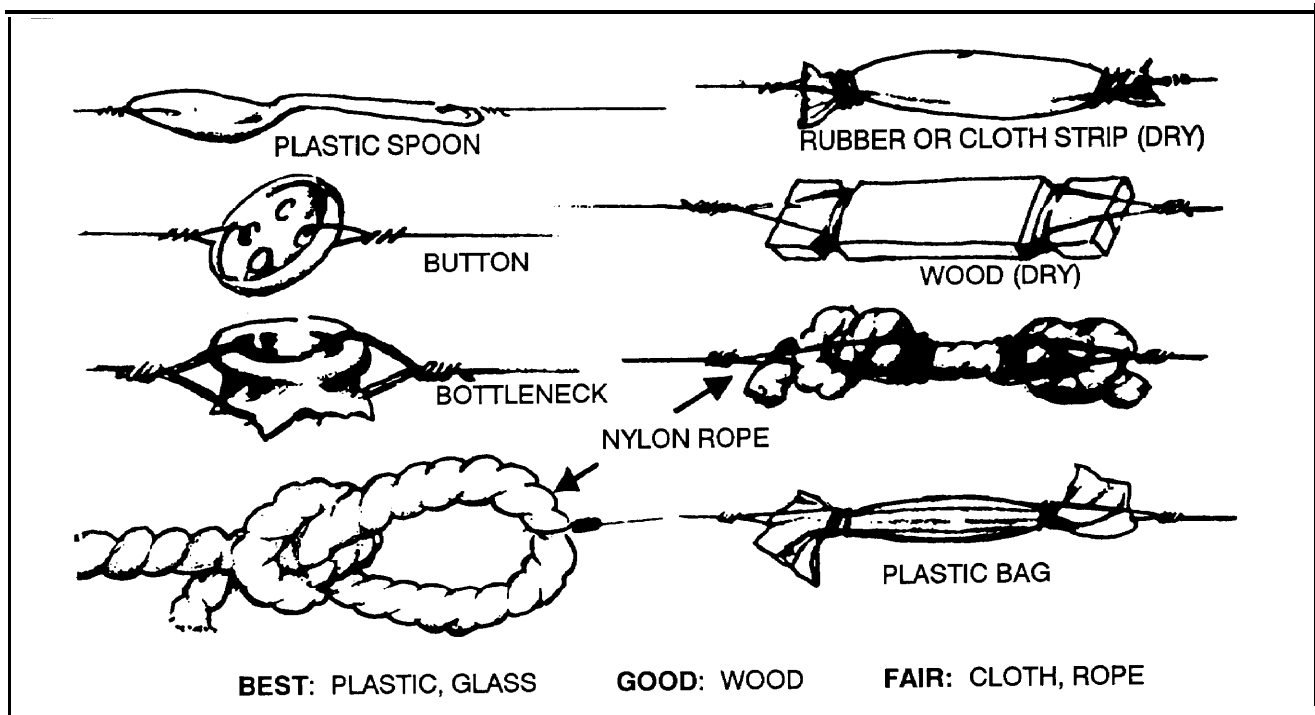

Figure D-15. Expedient insulators.
b. **Insulators.** Insulators can be made from items that are readily available. The operator should be careful when selecting any material that holds water (cloth, rope). In a rainstorm, these items absorb water and lose their insulating characteristics. (See Figure D-15.)